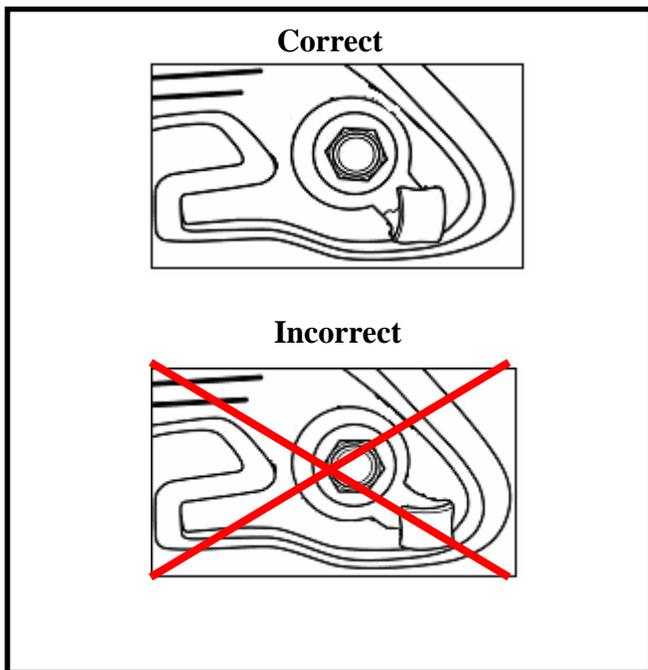

Fig. 1-3
- (e) Tighten with a 10mm socket with driver. (Fig. 1-3)